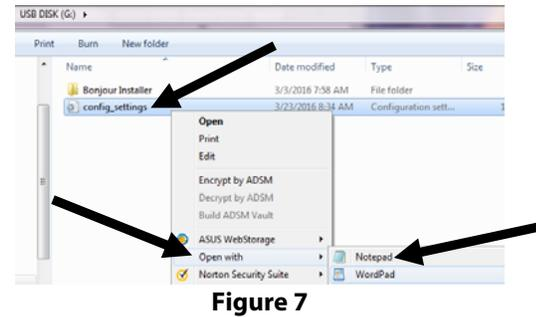

Figure 7
11. Locate the config_settings.ini file on the USB drive. Right click on it and Open with Notepad to edit the file (see Figure 7).